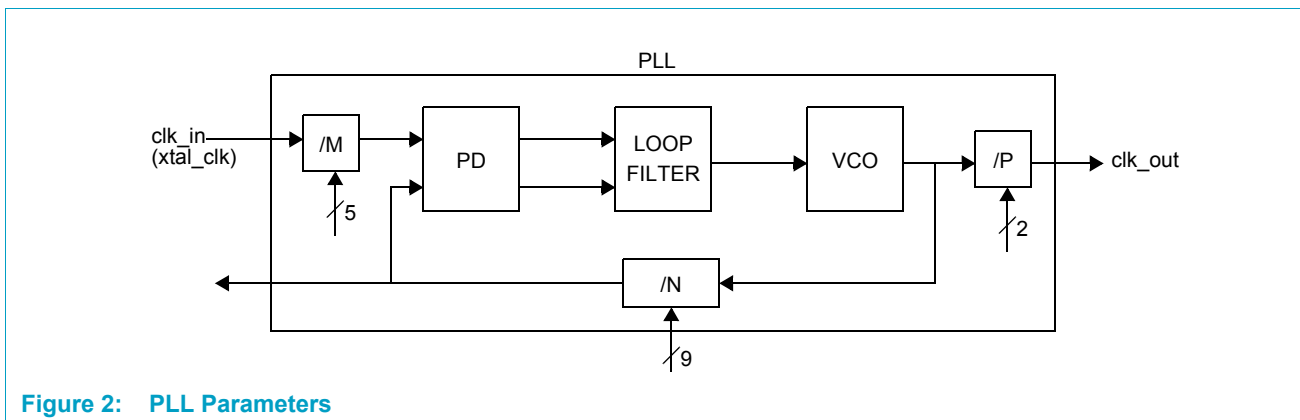

Figure 2: PLL Parameters
A PLL consists of a Voltage Controlled Oscillator (VCO) and a Post Divide (PD) circuit, as shown in Figure 2. Each PLL[0-5] has a control register for programming its parameters